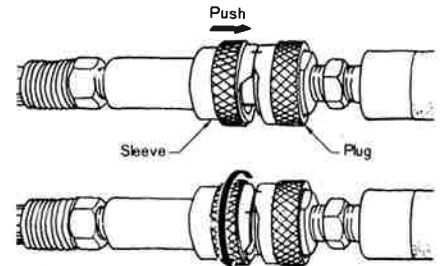

Fig. 5 Turn the sleeve 90° to the left or right
- (1) Connection : Align the arrows of the socket sleeve and plug, push the sleeve in the direction of the plug, and lock by turning 90° to the left or right. (See Fig. 5.)